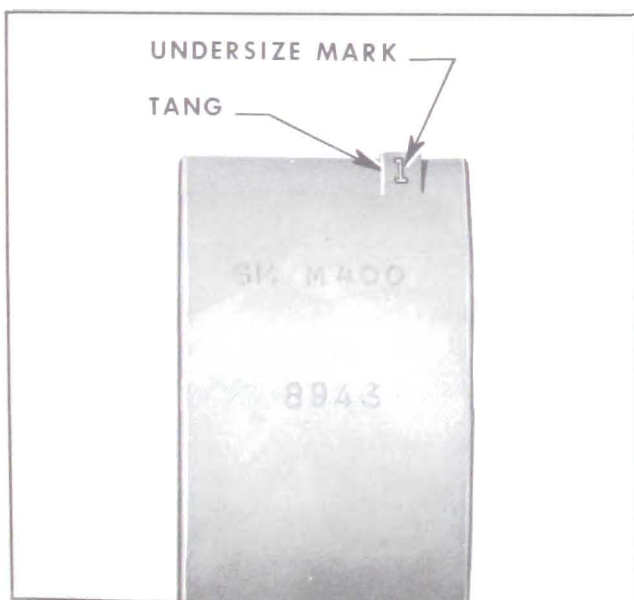

Figure 2-29—Location of Undersize Mark on Bearing Shell
on or near the tang to indicate amount of undersize. See Figure 2-29.
8. The desired clearance with a new bearing is .0005" to .0025". If this clearance cannot be obtained with a standard size bearing, insert an undersize bearing and check again with Plastigage. **NOTE:** Each undersize shell has a number stamped on outer surface on or near the tang to indicate amount of undersize. See Figure 2-29.